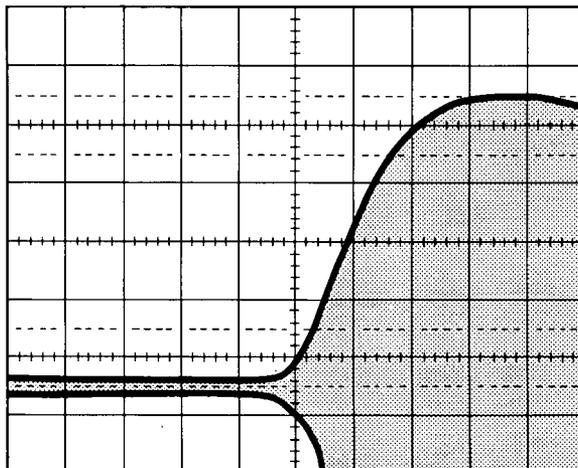

Figure 4-13. Pulse Modulation Rise Time Waveform
5. Set the oscilloscope horizontal sweep to 100 nanoseconds/division and select channel A input only. Adjust the channel A (pulsed IF input signal) vertical gain and position so that the pulse OFF is at the 0% graticule line and the pulse ON is at 100% graticule line. Select the horizontal MAG X10. The oscilloscope is now calibrated for 10 nanoseconds/division. Adjust the horizontal position control to position the modulation envelope so that the 10% point of the envelope rise time is at the center vertical graticule line similar to Figure 4-13.